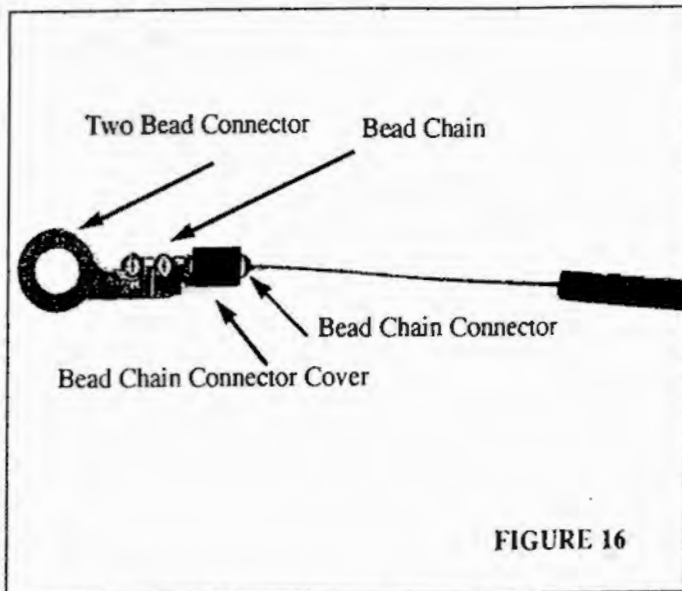

FIGURE 16
2. Attach the **Bead Chain** to the **Two Bead Connector**. Secure beads by folding down the metal tabs. The following parts will be used when installed properly: **Two Bead Connector, Bead Chain, Bead Chain Connector, and Bead Chain Connector Cover.** (Figure 16)